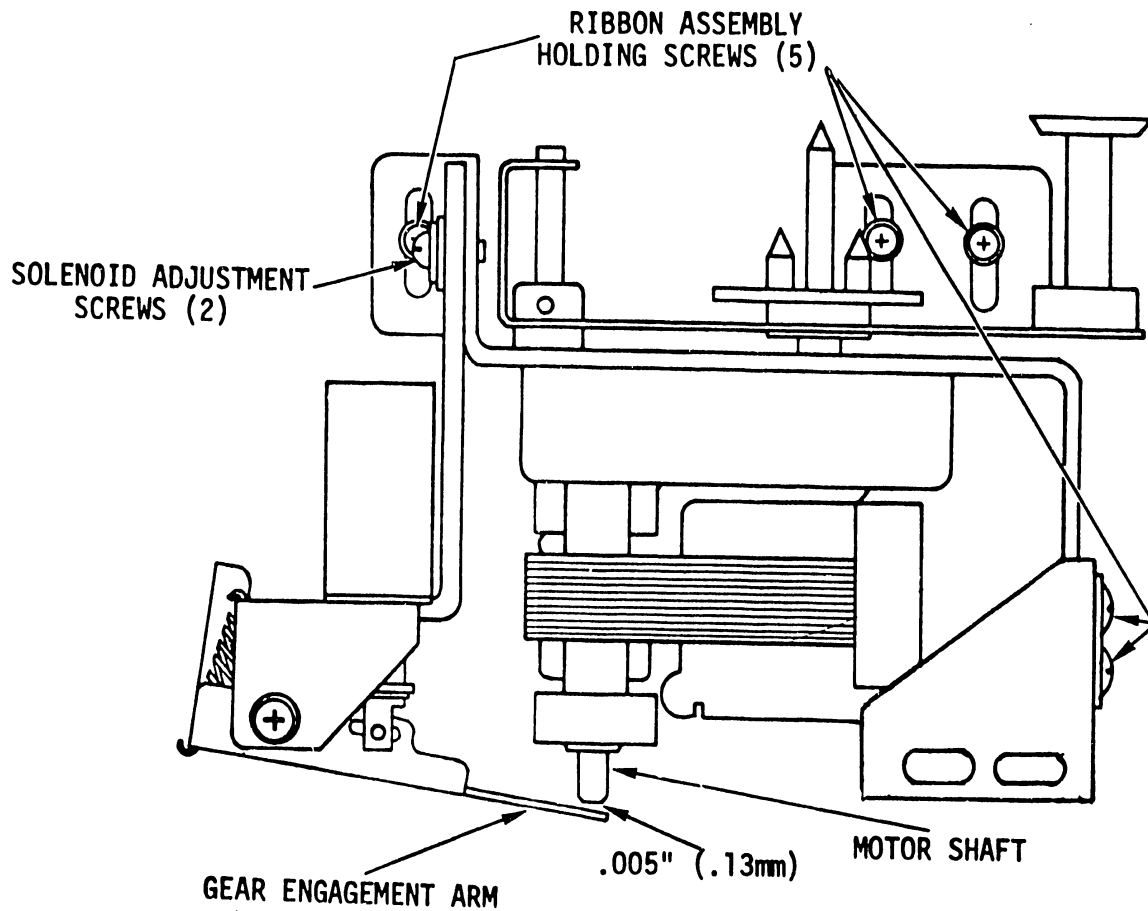

FIGURE 5-24 RIBBON DRIVE ASSEMBLY ADJUSTMENTS
- 1) Solenoid Height - There should be a .005" (.13 mm) gap between the gear engagement arm and the motor shaft while the solenoid is deenergized. See Figure 5-24.
- 1) Solenoid Height (Figure 5-24) - With power off, loosen the four holding screws on the solenoid bracket and move the solenoid in the desired direction to obtain the .005" (.13 mm) gap.
- 3) Remove the five Phillips screws attaching the assembly to the side frame and base (Figure 5-24).